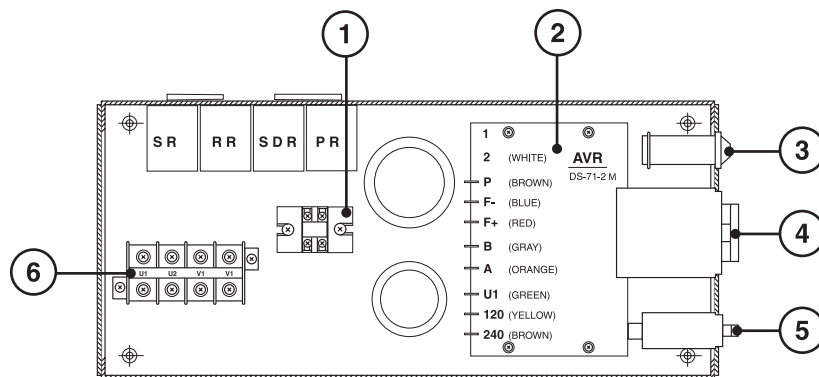

Figure 19: Control Box Components.
3. Generator excitation is provided by residual magnetism and electrical output voltage is controlled by the automatic voltage regulator (AVR) located in the control box (Figure 19, Item 2).
CONTROL BOX (Figure 19)